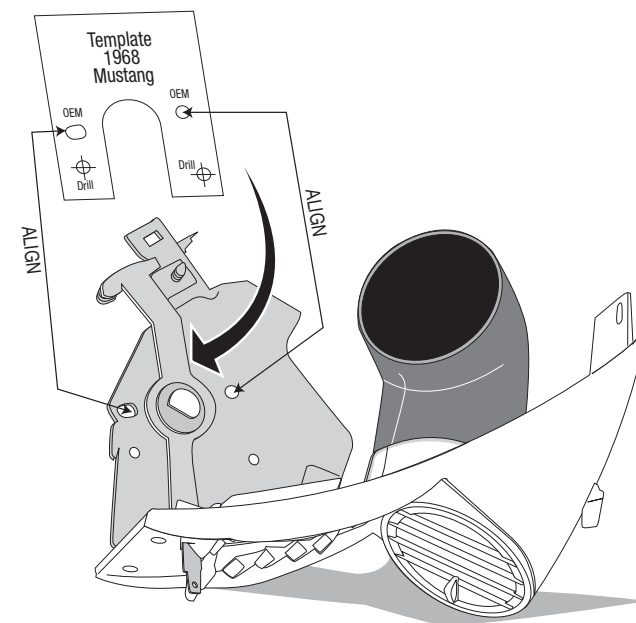

FIGURE 8
**1968 CONTROL HEAD:** Remove the rotary vacuum switch and set aside (retaining the OEM screws). Utilizing the supplied template (see figure 8) you will need to drill two holes for mounting the blower switch bracket. Slip the template in behind the lever and align the circles marked "OEM" to the original holes on the control body that previously held the vacuum switch. Secure the template to the control body (with tape) and drill thru the holes marked "drill" with a 9/64" drill bit. Attach the blower switch and bracket with the two supplied #6 - 20x3/8" screws. .